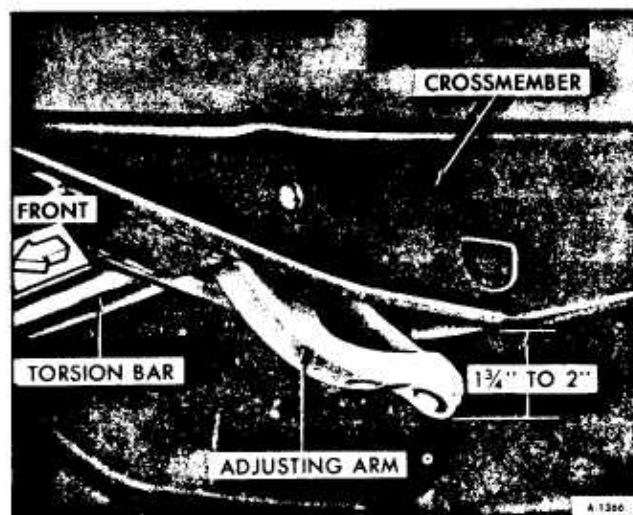

Figure 17—Positioning of Adjusting Arm
6. Insert adjusting arm into the crossmember and position to 1-3/4" - 2" below the centerline of the crossmember (see figure 17). Slide torsion bar rearward until it is flush with the rear face of the adjusting arm.